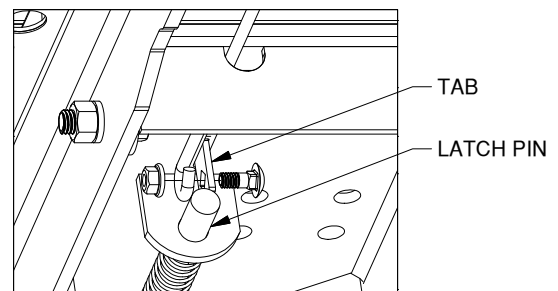

Figure E2: Handle Installation
2. **Secure the handle.** Secure the handle to the pin with the 5/16" X 3/4" carriage bolt and 5/16" locking flange nut, see Figure E2. Note: The included 5/16" cap screw can replace the carriage bolt if wrench access on the "cab side" of the handle is limited. Tighten the nut until it is secure. Do not over-tighten and deform the handle eyelet.